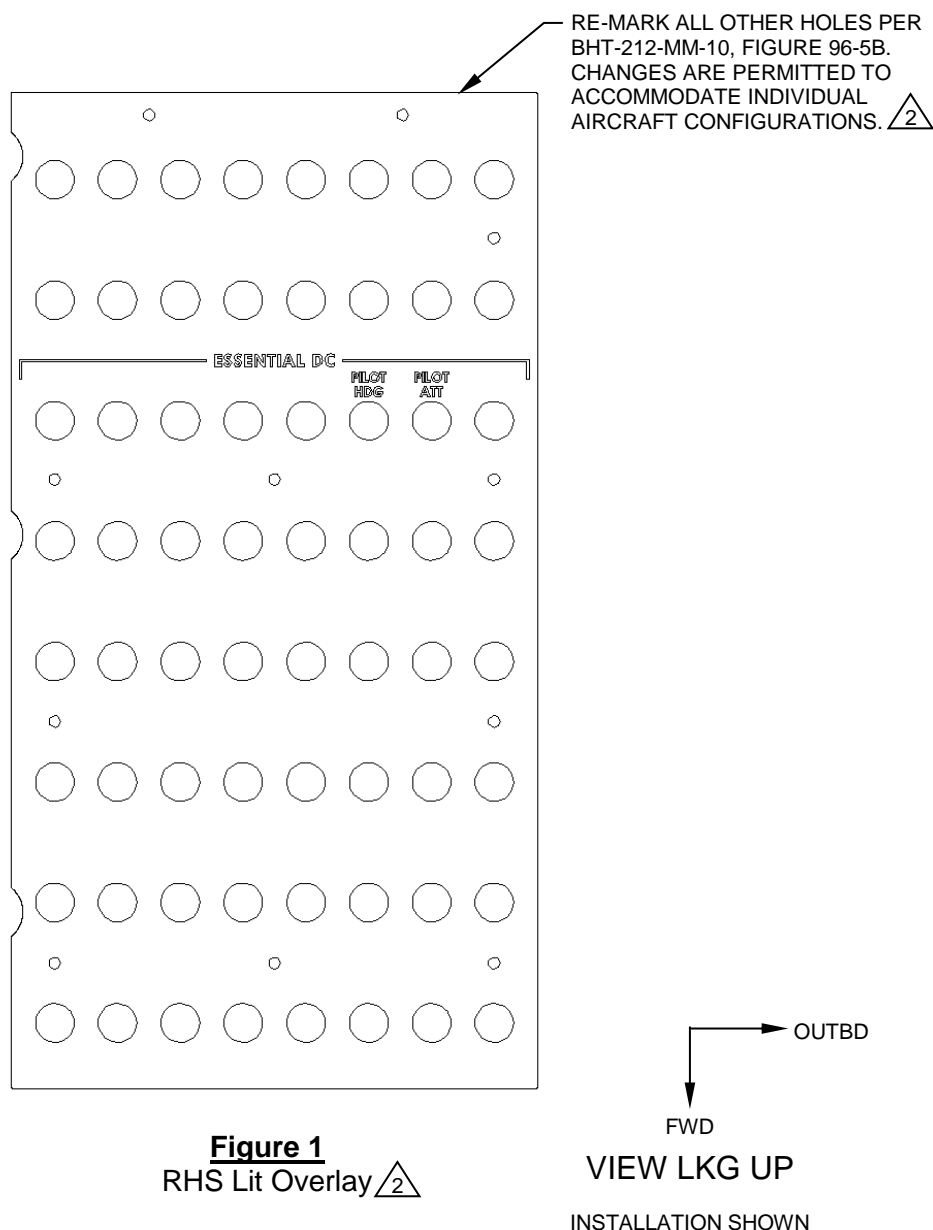

Figure 1
3. Remove the lit overlay on the RHS overhead breaker panel and have it re-marked as shown. Alternately, if only day VFR operations are anticipated, it is permissible to identify Attitude and Heading circuit breakers with locally fabricated "PLT ATT" and "PLT HDG labels. Reference Figure 1. Changes to the layout are permitted to accommodate individual aircraft configurations.
15. Install Circuit Breaker, Details (Items 41, 42, 52 & 53) in the locations shown. The Circuit Breaker locations shown are preferred, however changes to the breaker locations are permitted to accommodate individual aircraft configuration. Reference Figures 1 & 2 and Steps 3 & 4. Install Cap-plug, Plastic (Items 44 & 55) in any un-used breaker holes.
16. Install the re-marked lit overlays onto the overhead breaker panels or label circuit breakers as detailed in Steps 3 & 4. Reference Figures 1 & 2 and Steps 3 & 4.
- Do not remove and re-mark/re-label the pilot (RHS) lit overlay panel. Reference Figure 1 and Step 3.
1. Remove the lit overlays from the overhead breaker panels and re-mark/re-label them as per the prior breaker configuration. Reference Figures 1 & 2, Installation Note 4 and Flag note 2 ().